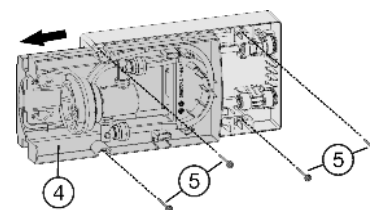

Fig. 56
- ▶ Pull the tray *Fig. 56 (4)* out until it catches.
- ▶ Secure the module with 4 screws *Fig. 56 (5)* through the recesses in the front and directly through the module in the back.